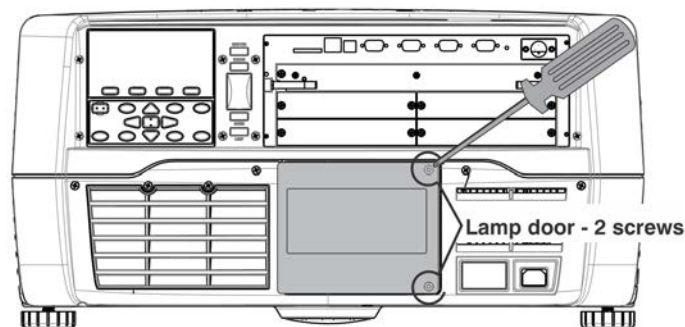

FIGURE 4-1
Using a #2 Phillips screwdriver, loosen the two (2) lock screws securing the lamp door, which is located at the rear of the projector below the Input panel. See Figure 4-1.